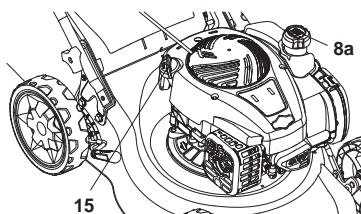

Fig. 8
3. Unscrew and remove the fuel tank cap (8a) Fig.8.